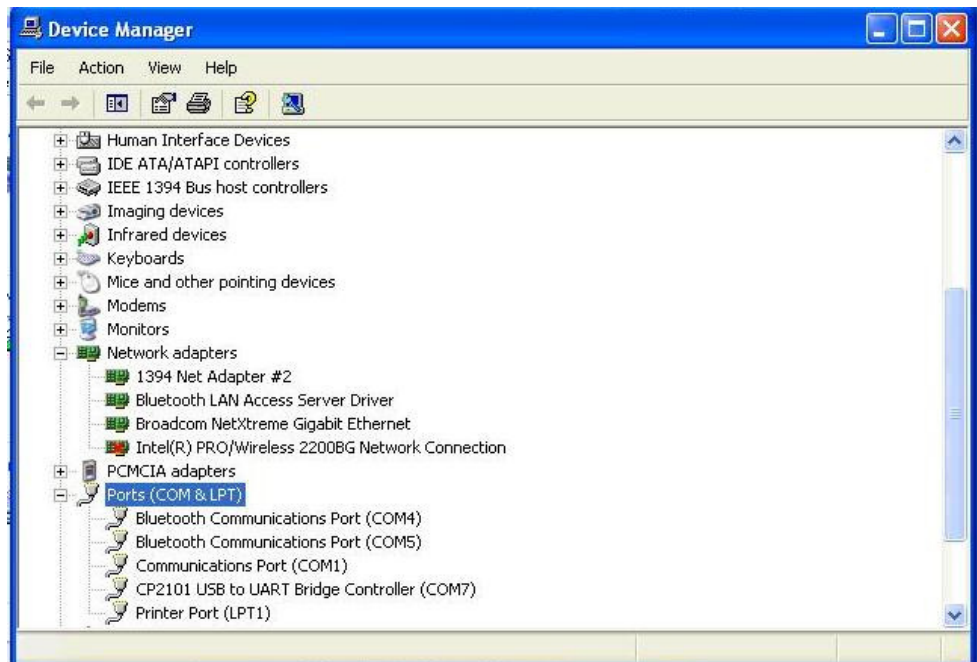

Figure 1: COM PORT Selection
- 2.1. Having completed the mechanical installation of the V-Alert Sensor Lines and connected the sensor lines to the V-ALERT 2 Zone Processor Card (See figure 1 below), the user can now proceed to use the V-AlertComm Setting Manager in the following way:
- 3.1. The following Table refers to the main components of the V-Alert Zone Processing Card shown in Figure 1 below.
- f. Look for the CP2101 USB to UART Bridge Controller as seen in Figure 1 below.